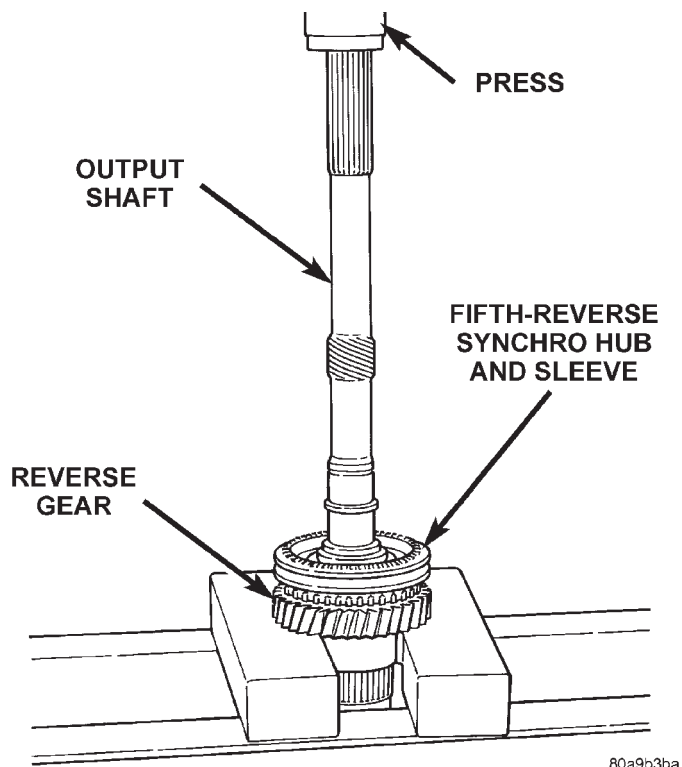

Fig. 49 Fifth-Reverse Synchro Hub And Sleeve Removal
(15) Remove fifth-reverse synchro hub and sleeve with shop press and Remover 1130 (Fig. 49).